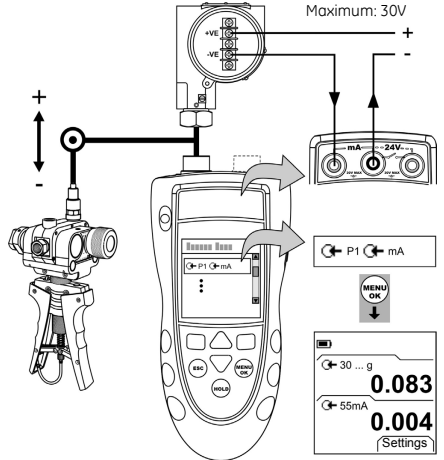
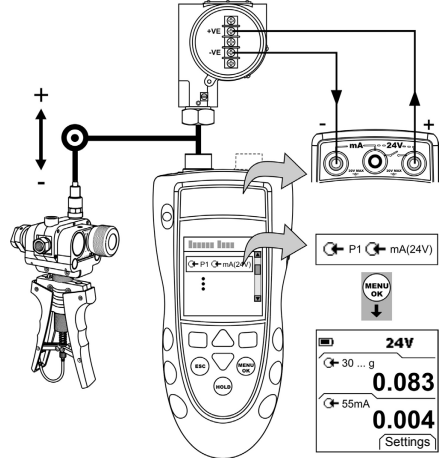

Figure 5: Example configuration - Transmitter calibration with external loop power
Figure 6: Example configuration - Transmitter calibration with internal loop power
1. Connect the instrument (Figure 5 or Figure 6) and, if necessary, adjust the *Set Up* (Table 1).